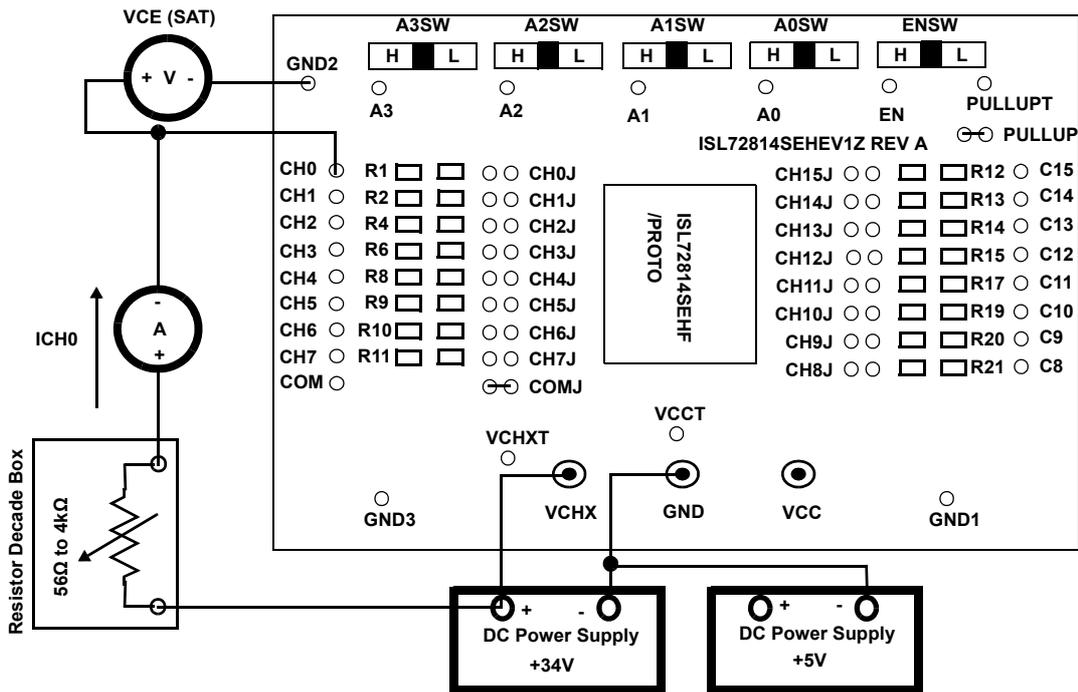

Figure 3. Basic Evaluation Test Setup Block Diagram (Measuring VCE (SAT) vs ICx)
1. Configure the board as shown in Figure 3 on page 8.
5. Attach the 5VDC power supply to the banana jacks labeled VCC and GND as shown in Figure 3. Positive terminal at VCC and negative terminal at GND. The supply should be capable of delivering 3V to 15V and 100mA of current. Set the supply voltage to 5V.
6. Attach the 34VDC power supply to the banana jacks labeled VCHX and GND as shown in Figure 3. Positive terminal at VCHX and negative terminal at GND. The supply should be capable of delivering 34V and 1A of current. Set the supply voltage to 34V.
7. Connect the resistor decade box and Ammeter (A) to the CH0 pin on the evaluation board as shown in Figure 3. One end of the decade box resistor should be connected to the CH0 pin through the ammeter to measure the ICH0 current. The other end of the resistor decade box connected to the 34VDC power supply. Set the decade box resistance to 170Ω.
8. Connect a voltmeter (V) between the CH0 pin and GND as shown in Figure 3. The voltmeter measures the VCH (SAT) voltage.